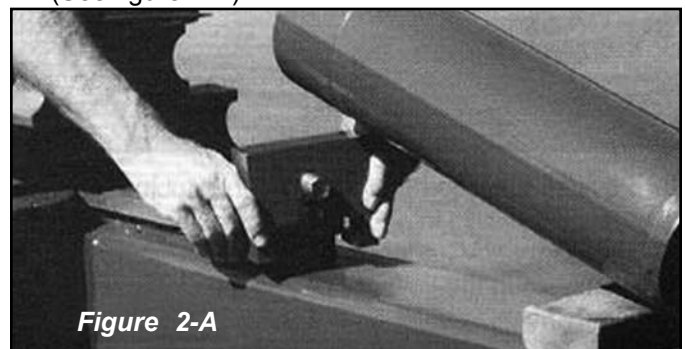

Figure 2-A
- Lift the cylinder up and position a block of wood underneath the rear end of the cylinder to support it and allow adequate room to clear the pusher block. It is not necessary to remove any hydraulic hoses. (See figure 2-A)